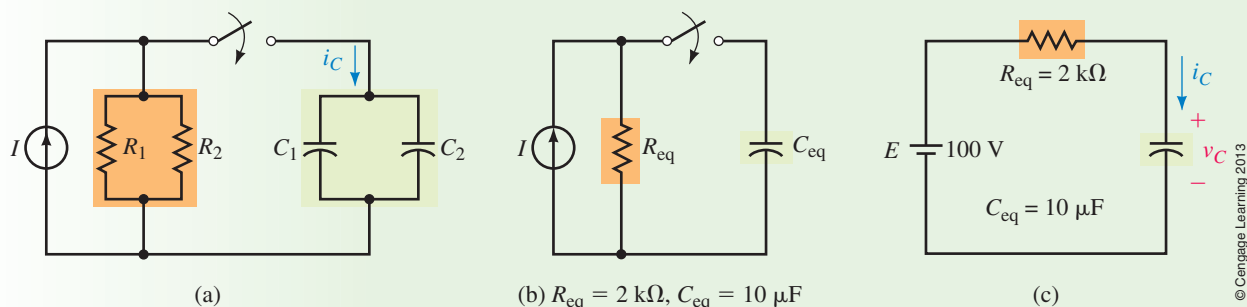

FIGURE 11–20 $I = 50 \text{ mA}$, $R_1 = 3 \text{ k}\Omega$, $R_2 = 6 \text{ k}\Omega$, $C_1 = 8 \text{ }\mu\text{F}$, $C_2 = 2 \text{ }\mu\text{F}$.
The charge and discharge equations and the universal time constant curves apply only to circuits of the forms shown in Figures 11–2 and 11–18. Fortunately, many circuits can be reduced to these forms using standard circuit reduction techniques such as series and parallel combinations, source conversions, Thévenin's theorem, and so on. Once a circuit has been reduced to its series equivalent, you can use any of the techniques that we have developed so far.
For the circuit of Figure 11–20(a), determine expressions for v_C and i_C . Capacitors are initially uncharged.
The capacitor of Figure 11–21 is initially uncharged. Close the switch at $t = 0 \text{ s}$.
2. For Figure 11–21, if $R_1 = 400\ \Omega$, $R_2 = 1200\ \Omega$, $R_3 = 300\ \Omega$, $R_4 = 50\ \Omega$, $C = 20\ \mu\text{F}$, and $E = 200\ \text{V}$, determine equations for v_C and i_C .
3. Using the values shown in Figure 11–21, determine equations for v_C and i_C if the capacitor has an initial voltage of 60 V.